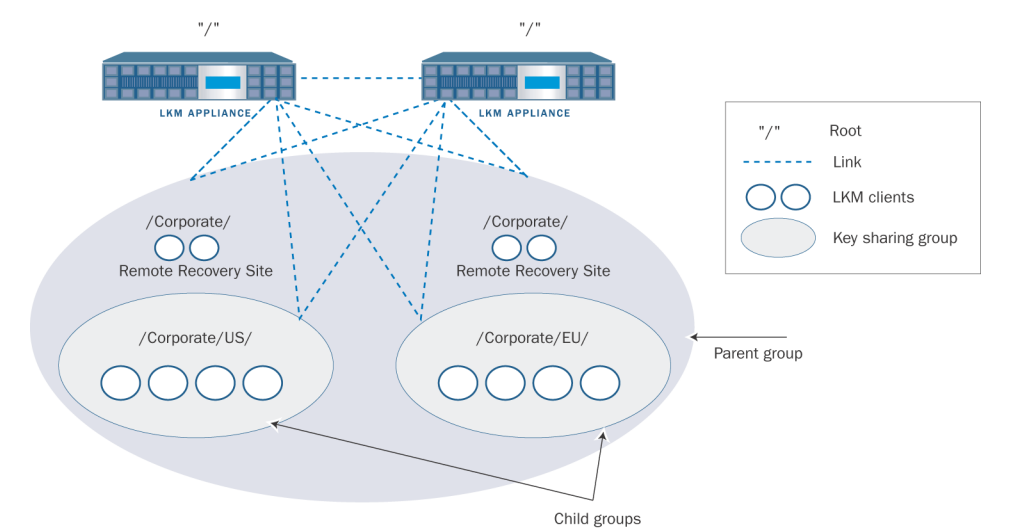

Figure 2-4: Sample 2: Key Sharing Groups
- In scenarios that include a data recovery site, groups may be created such that one particular group of appliances may receive keys from all other appliances in a one-way fashion from Child to Parent group. For example, appliances in '/world/' may receive keys from both '/world/x/' and '/world/y/', but appliances in '/world/' may not share keys with '/world/x/' or '/world/y/'. See Figure 2-4 on page 22.
In Figure 2-4 remote recovery sites decrypt data with encryption keys retrieved from either LKM appliance.
Table 3 shows the key sharing group relationships that may be formed when using the configuration in Figure 2-4.